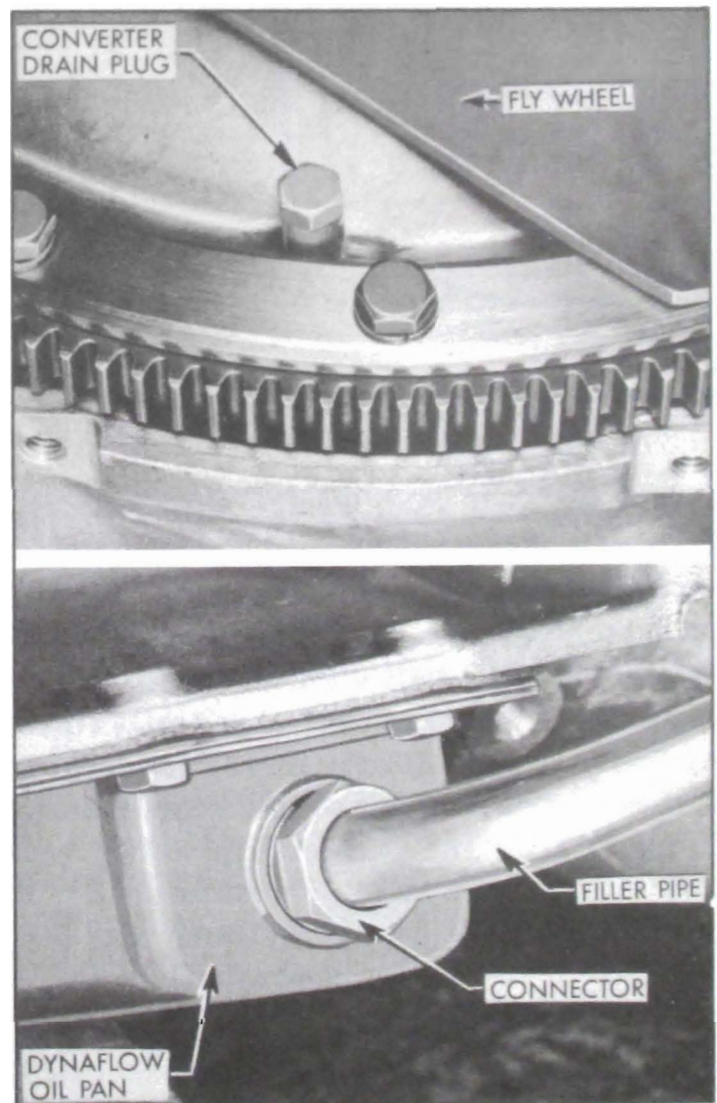

Figure 1-22—Dynaflo Transmission Drain Points
2. Loosen one converter drain plug, then turn converter until opposite drain plug is straight down and remove this plug to allow converter to drain completely. See figure 1-22.
3. Remove filler pipe fitting from oil pan and allow oil pan to drain completely. *Do not remove accumulator caps on Variable Pitch Dynaflow.* See figure 1-22.
5. Put 3 quarts of specified oil (subpar. a.) in transmission. With engine idling and transmission in Parking (P) complete the refilling to bring oil level to "FULL" mark on gauge rod. When transmission oil is warmed up, the oil level should then be at "FULL" mark on gauge rod.